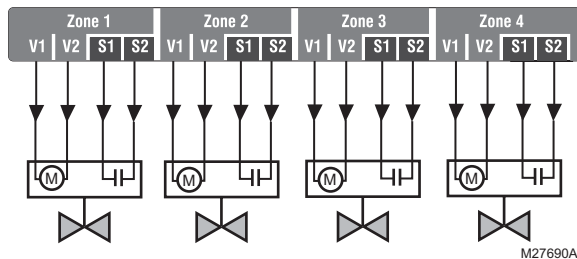

Fig. 12. Wiring an AQ15740B Zoning Module for use with low voltage zone valves with end switches.
- See Fig. 12. 24 Vac power is pre-wired between the transformer secondary at the top left of the AQ250's transformer and the AQ15740B Zoning Module. No field wiring is required.